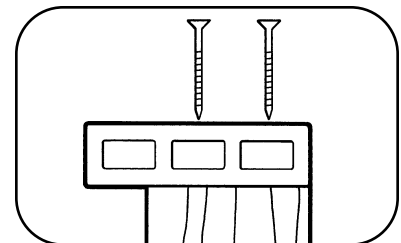

Fig. 31
- Overhang the Top Rail on the outside of the 4x4 (outside of deck) to allow room for the TimberTech Side Rail (when installed) to be flush with the side of the Top Rail (Fig. 31).
- Pre-drill and place two 2-1/2" stainless steel or galvanized deck screws through the Top Rail into each 4x4 post (Fig. 31). There should be a minimum 1/16" gap between each Top Rail to allow for expansion and contraction.